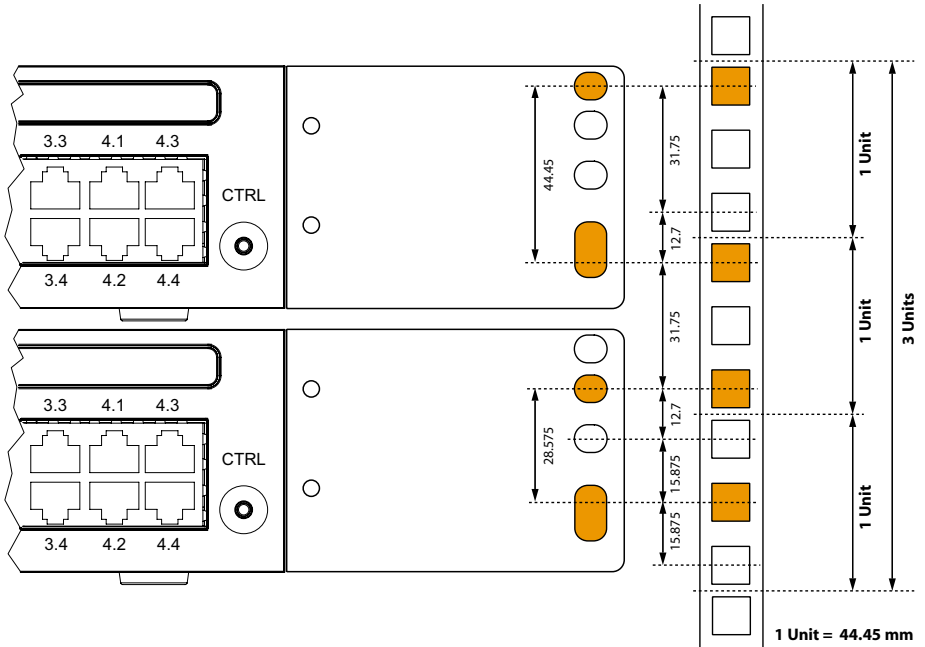

Fig. 22 Placing two systems above each other inside a 19" rack
- The holes in the mounting plates allow two systems to be placed directly above each other with a space requirement of three units. Different holes in the mounting plates are used for this purpose (see Fig. 22).
8. Secure the cage nuts in the appropriate positions in the rack's fastening rails (see Fig. 22).